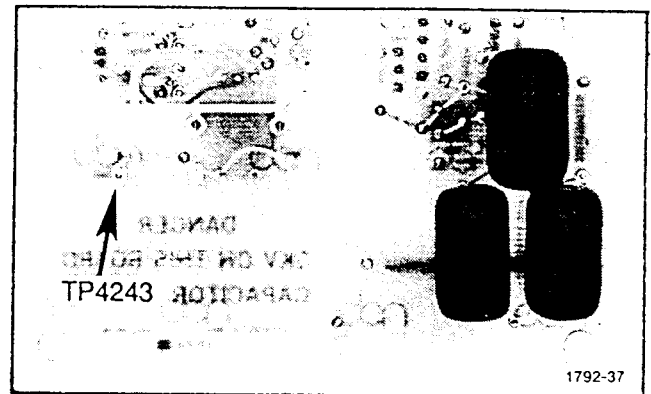

Fig. 4-10. 2000V Test Point
- C. Connect the HI (red) lead from the DM502 to the blue test point (TP4243) on the bottom of the high voltage board (see Fig. 4-10).